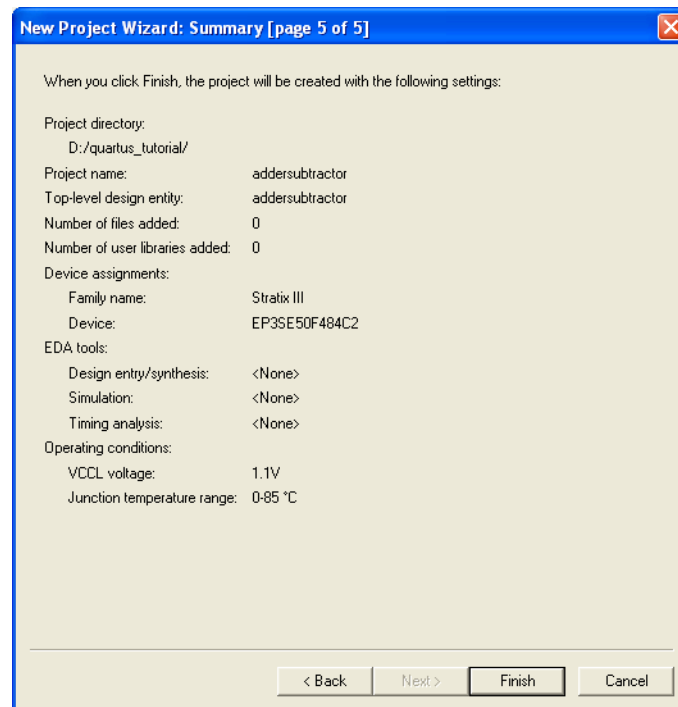
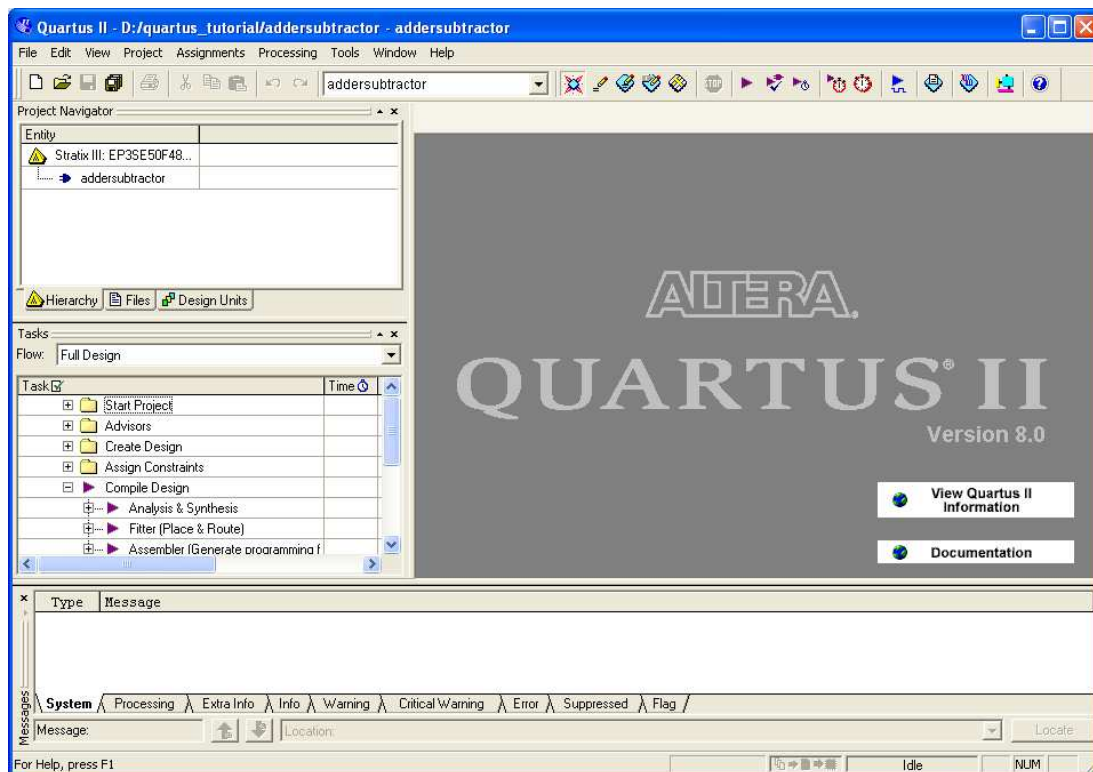

Figure 9: Summary of the project settings.
Figure 10: The Quartus® II display for the created project.
5. In this window one can specify any third-party tools that should be used. A commonly used term for CAD software for electronic circuits is *EDA tools*, where the acronym stands for electronic design automation. This term is used in the Quartus® II messages that refer to third-party tools, which are the tools developed and marketed by companies other than Altera®; other tutorials show how such tools may be used. Since we will rely solely on the Quartus® II tools, we will not choose any other tools. Press **Next**. Now, a summary of the chosen settings appears in the screen shown in Figure 9. Press **Finish**, which returns to the main Quartus® II window, but with *addersubtractor* specified as the new project, in the display title bar, as indicated in Figure 10.